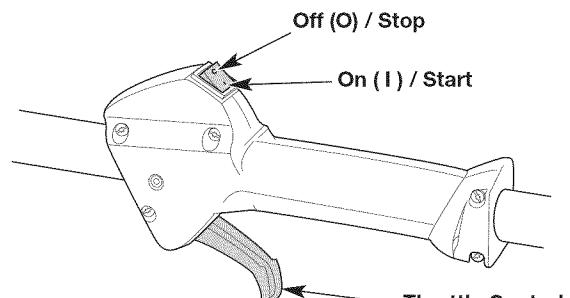

Fig. 8
- NOTE:** There is no need to turn the unit on. The On/Off switch is in the ON (I) position at all times (Fig. 8).
6. Squeeze the throttle control (Fig. 8) and pull the starter rope with a controlled and steady motion **5 times** (Fig. 10).
2. Press and hold the On/Off switch in the OFF (O) position until the engine comes to a complete stop (Fig. 8).
7. Squeeze and hold the throttle control (Fig. 8). Run the Speed Start™ accessory for 2 seconds.